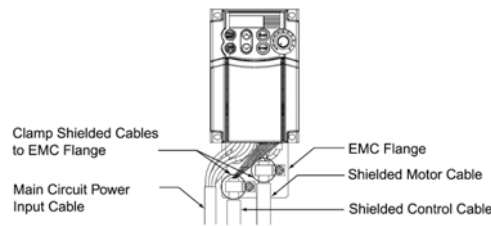

Figure 10.2 Connecting Shielded Cables
- (2) Use shielded wires for the motor cable and route it as short as possible. Firmly clamp the wire shield to the flange to ground it. Further, connect the wire shield electrically to the grounding terminal of motor. (See Figure 10.2.)
- (3) Use shielded wires for the control signals of the inverter to input to/output from the control terminals. Firmly clamp the control wire shields to the EMC grounding flange (in the same way as the motor cables).